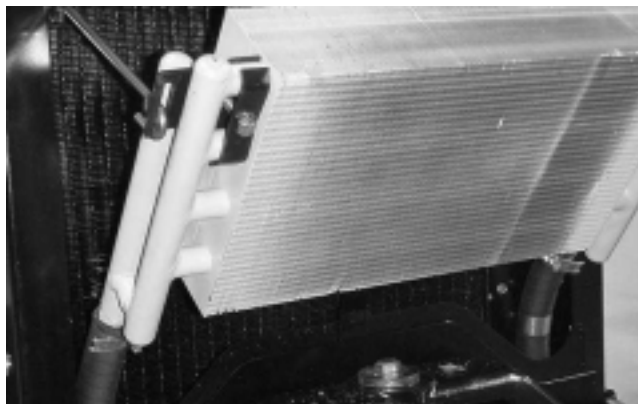

Figure 50
3. Unlatch the oil cooler and pivot it rearward (Fig. 50). Clean both sides of the oil cooler and radiator area thoroughly with water or compressed air. Pivot the oil cooler back into position.